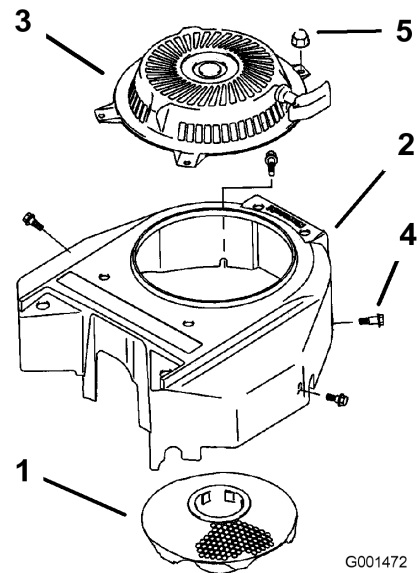

Figure 28
3. Remove the air intake screen, recoil starter and fan housing (Figure 28).
5. Install air intake screen, recoil starter and fan housing (Figure 28).